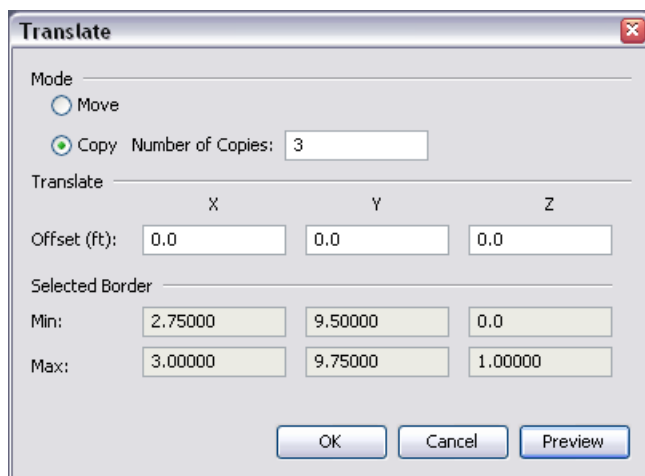

Figure 10.1. The translate dialog
3. This will show the Translate dialog, Figure 10.1.